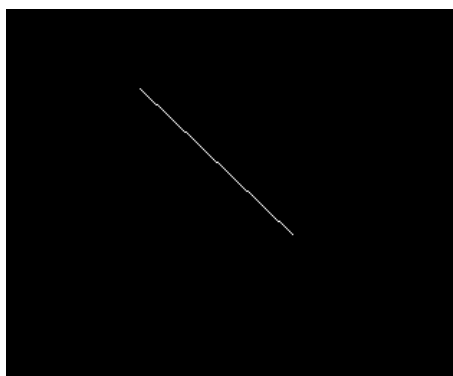

Figure 6-5
Step 1: Hold down the left mouse button and move the cursor to the destination point. A straight line will appear in the area, as shown in Figure 6-5.